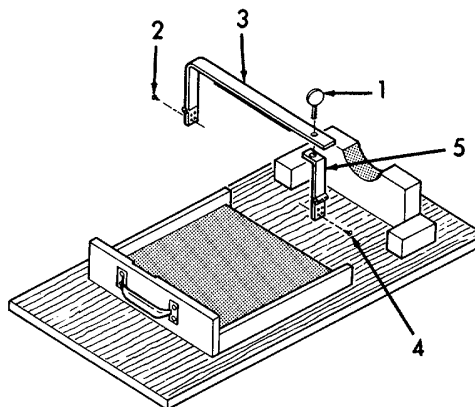

Figure 5-15. Holddown Strap, Replacement.
- (1) Replacement of the holddown strap as follows (refer to Figure 5-15).
- (a) Remove wingnut (1).
- (b) Remove four screws (2) and hinged strap (3).
- (c) Remove four screws (4) and strap (5).
- (d) Install strap (5) and secure with four screws (4).
- (e) Install hinged strap (3) and four screws (2).
- (f) Install wingnut (1).